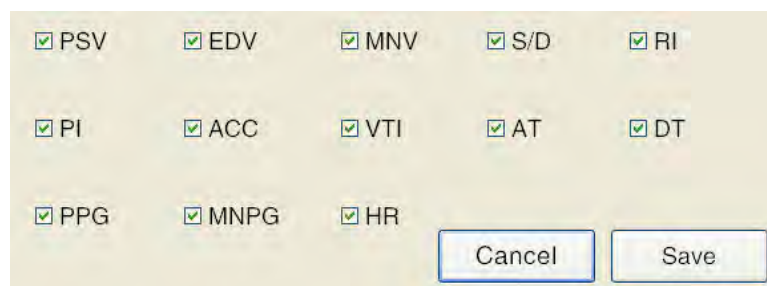

Figure 119: Trace result
*NOTE: To display the calculation elements of Auto Trace and Range Trace, you can use Measurement Setup - - Advanced Settings - Trace Result, as shown in Figure 119. For a description of the setup process, see Section 6.2.8.*